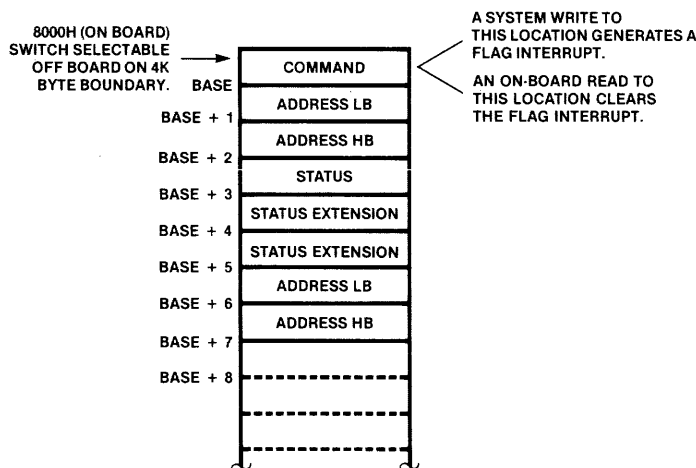

Figure 3-2. Communications Area
**3-5. COMMUNICATIONS AREA.** The user must first reserve an area that can be set aside as a communications area between the master CPU and the on-board 8085A. For example this area could consist of the first 8 locations in the on-board RAM and would contain the information shown in figure 3-2.